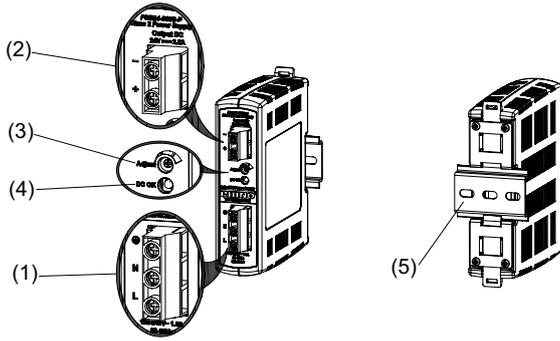
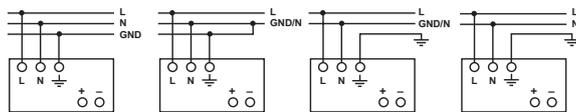

Figure 1
Figure 5
## 2. Device description (Fig. 1)
### 5.1. Input connection (Fig. 1, Fig. 5)
Use L, N and GND connections of input terminal connector (see Fig. 1 (1)) to establish the 100-240 VAC connection.
### 5.2. Output connection (Fig. 1 (2))
Use the "+" and "-" screw connections to establish the 24 VDC connection. The output provides 24 VDC. The output voltage can be adjusted from 22 to 28 VDC on the potentiometer. The green LED DC OK displays correct function of the output (Fig. 1 (4)). The device has a short circuit and overload protection and an overvoltage protection limited to 35 VDC.